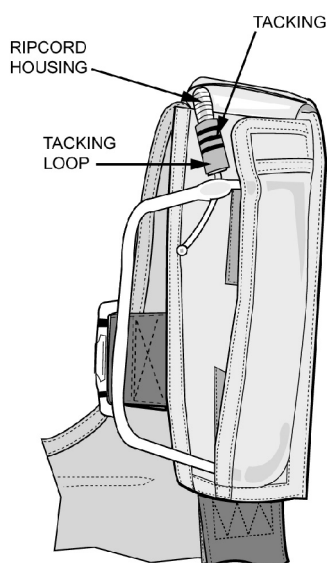

Figure 8. Tacking Ripcord Housing
a. Tack using Tape, Lacing & Tying 12-in. long, and a needle. Tack ripcord housing end to tack loop next to ripcord handle, ensure ferrule is even with tack loop edge. Tie through tack loop and around housing using three turns, single, tied with a surgeon's knot, followed by a square knot. Trim off excess lace (Figure 8).